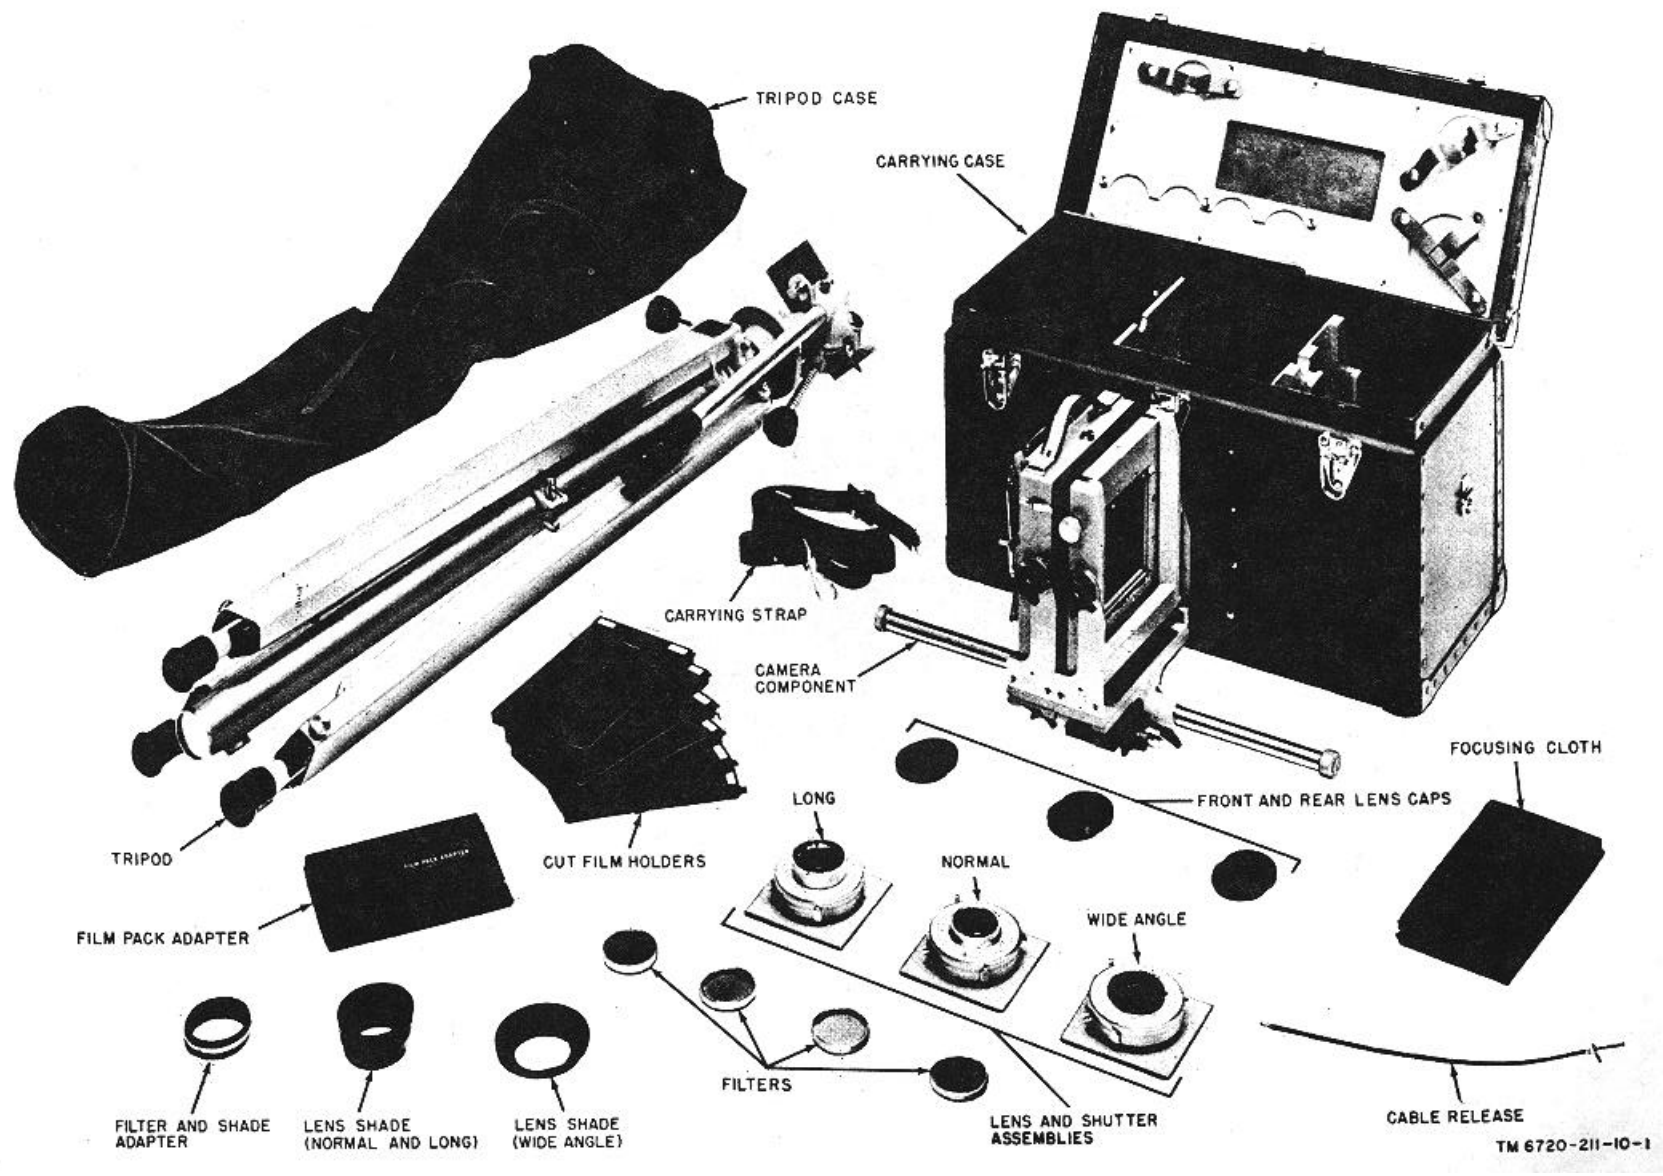

Figure 1. Camera Set, Still Picture KS-17A, components.
a. This manual describes Camera Set, Still Picture KS-17A (fig. 1) and covers its installation, operation, and operator's maintenance. It includes operation under unusual conditions, and cleaning and inspection of the equipment.
(fig. 1)